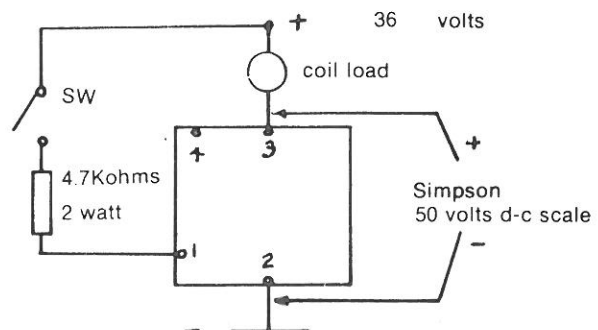

Figure 3-21
**A.** Connect circuit as shown (Figure 3-21).